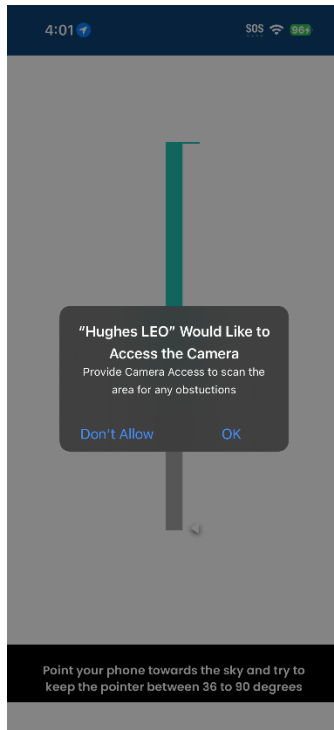

Figure 81: Allowing the app to use the camera on your phone
4. The app displays the screen shown in Figure 81 asking you to give your permission for using the camera on your phone for the site survey. If you do not give camera use permission, then the site survey procedure will abort.